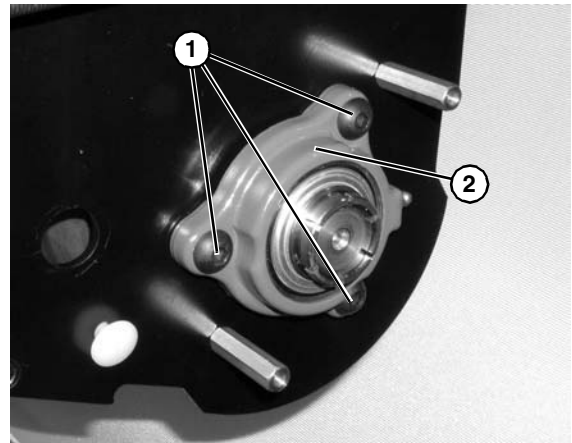

Figure 93
4. Remove the three (3) mounting screws (**Figure 93, item 1**).
5. Remove and replace housing assembly (**Figure 93, item 2**).
6. Tighten three (3) mounting screws (**Figure 93, item 1**) to 200 in-lbs (22.5 N-m).